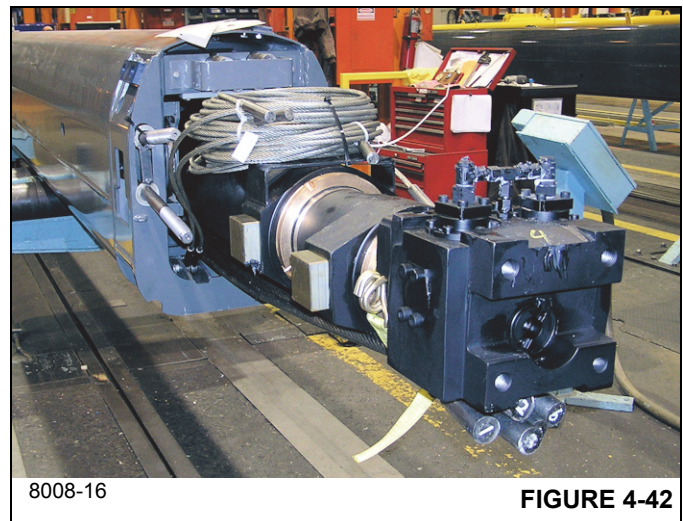

FIGURE 4-42
55. Coil the four tele 3 retract cables (65) and set them on top of the telescope cylinder (6) (see Figure 4-42).